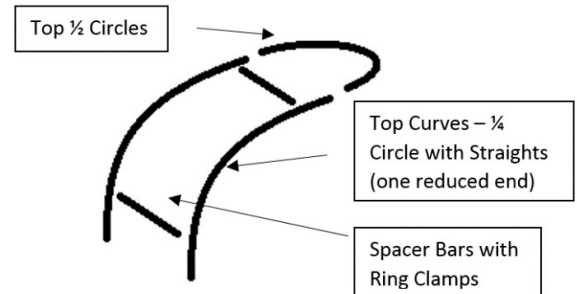

Figure 1: Connecting Top Circles and Top curves
- Slide 2 Spacer Bars onto the ends of the Top Curves, as shown in figure 1.
- If the distances are not equal adjust, as necessary, the clamps' positioning on the ½ Top Circles (refer to Figure 1), and tighten the clamps.